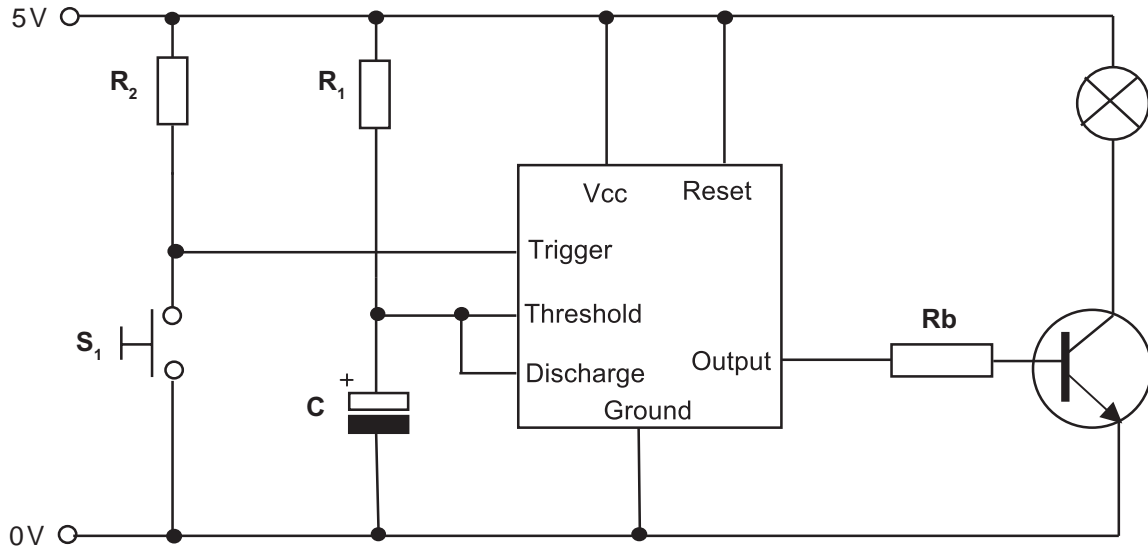

Fig. 10(c)
- (i) The bulb in **Fig. 10(c)** is to be switched on for a period of 20 seconds. If **C** has a value of  $100\mu\text{F}$ , calculate the value of **R1** given that  $T = 1.1 \times C \times R_1$  where **T** is the time for which the output for the 555 timer remains high. [2]
- (ii) Draw a graph with labelled axes showing output voltage of the 555 timer against time for the circuit in **Fig. 10(c)** when **S1** is momentarily pressed and released. Also add a label to indicate the time period **T**. [3]
- (iii) The bulb in **Fig. 10(c)** requires 100 mA to operate. If the transistor has a current gain ( $h_{fe}$ ) of 80 and a  $V_{be}$  of 0.7 V, calculate the value of **Rb**. [3]